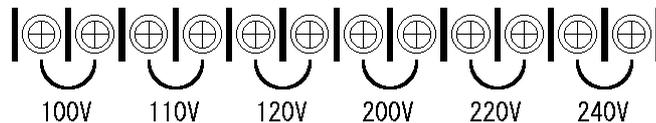

Figure 13 AC Input Selection Terminals
⑫ AC Input Voltage Selection Terminals
The “AC Input Voltage Selection Terminals” let you select AC Input Voltage. The Unit is capable of running at 6 different voltages 100V, 110V, 120V, 200V, 220V, and 240V. “AC Input ⑩” voltage can be chosen by short-circuiting a pair of the terminals shown on Figure 13.